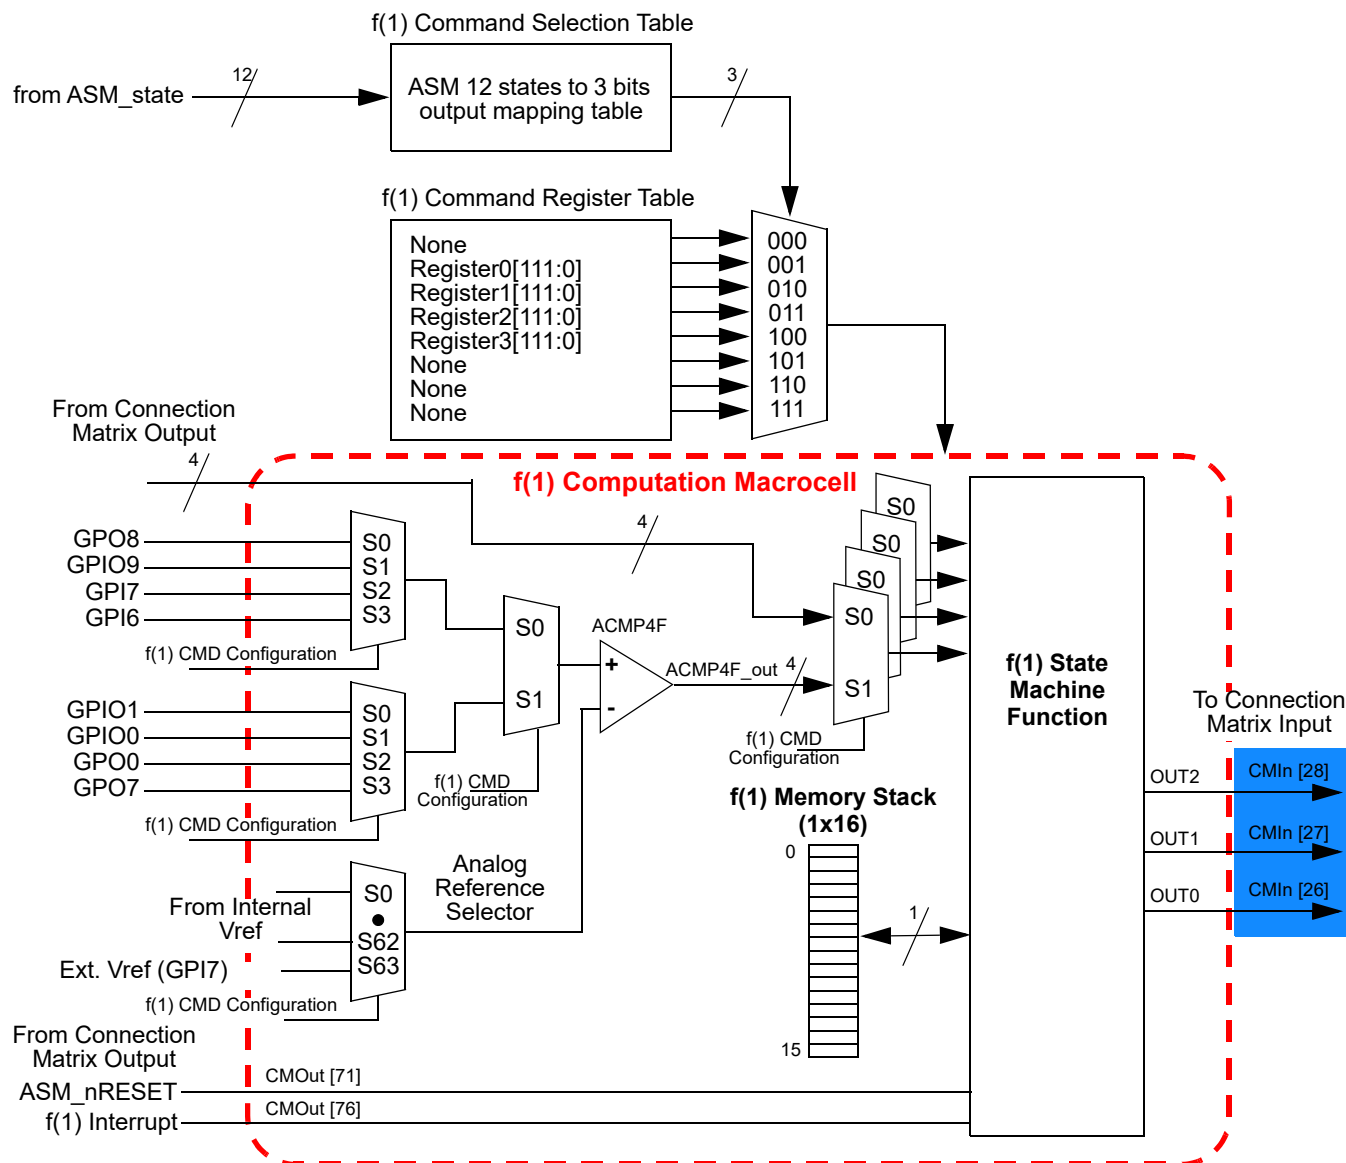

Figure 121: f(1) Computation Macrocell Output Signals
17.4 f(1) COMPUTATION MACROCELL OUTPUT SIGNALS
The f(1) Computation Macrocell has 3 digital output signals that go to the Connection Matrix, and from there can be routed to other internal macrocells or pins. These signals are shown in Figure 121, highlighted in blue. The state of these output signals are under user control, and are changed based on the Output commands.